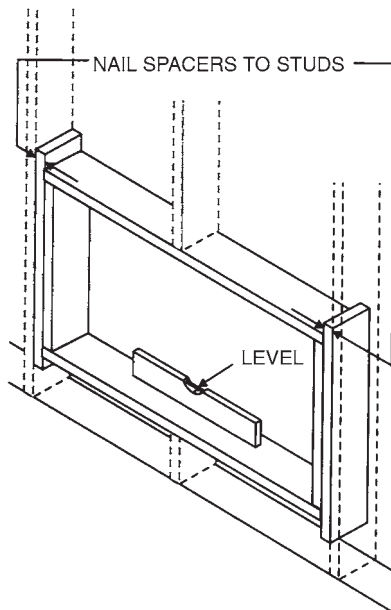

FIGURE 21 — FRAME INSTALLATION
10. Install wooden frame into hole in wall. Make sure frame is properly secured. Fill in the space between the frame and the studs with wood shims (spacers). Nails spacers to studs. If required, provide studs around entire frame to reinforce stability of wall. See Fig. 21.